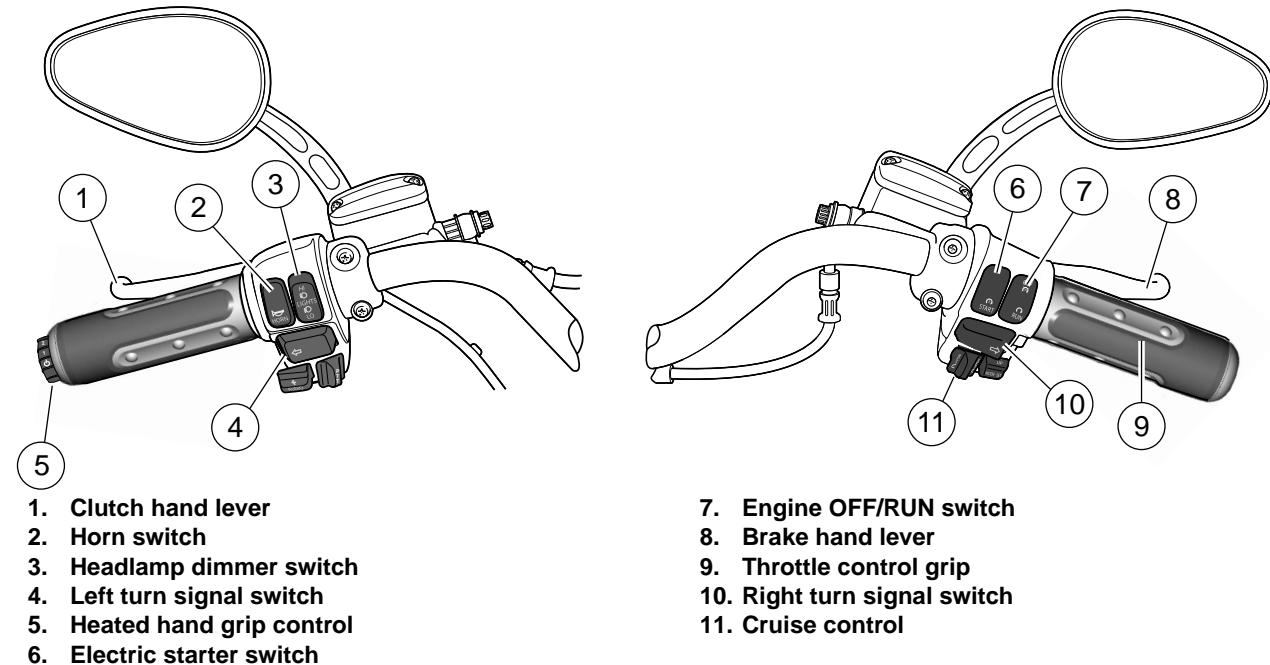

Figure 4. Handlebar Controls: FLHTCUSE3
See Figure 4. The clutch hand lever (1) is located on the left handlebar and is operated with the fingers of the left hand.
See Figure 4. The horn is operated by pushing on the horn switch (2) located on the left handlebar control group.
See Figure 4. The headlamp dimmer switch (3) is located on the left handlebar. The switch has two positions to activate the headlamps high or low beams.
See Figure 4. The (blue) high beam indicator lamp will illuminate when the high beam is on.
See Figure 4. Each handlebar control group contains a turn signal switch.
See Figure 4. Located at the end of the left hand grip, the heated hand grip control (5) can be turned from the OFF icon through 6 increasingly warm settings.
See Figure 4. The electric starter switch (6) is located on the right handlebar control group. See OPERATION, Starting the Engine: FLHTCUSE3 for detailed operation procedures.
2. See Figure 4. Turn ignition/headlamp key switch to ON and push the START switch to operate starter motor.
See Figure 4. The engine OFF/RUN switch (7) turns the ignition power ON or OFF. The engine OFF/RUN switch is located on the right handlebar control. Push the top portion of the engine
2. See Figure 4. Turn the ignition key to the OFF position to turn the ignition power completely OFF.
See Figure 4. The front brake lever (8) applies mechanical pressure to the front brake master cylinder and the master cylinder applies hydraulic pressure to the front brake calipers.
See Figure 4. The throttle control grip (9) is located on the right handlebar control and is operated with the right hand.
See Figure 4. The cruise control resume/set switch (11) automatically maintains the speed of the motorcycle. Refer to OPERATION, Cruise Control: FLHTCUSE3.